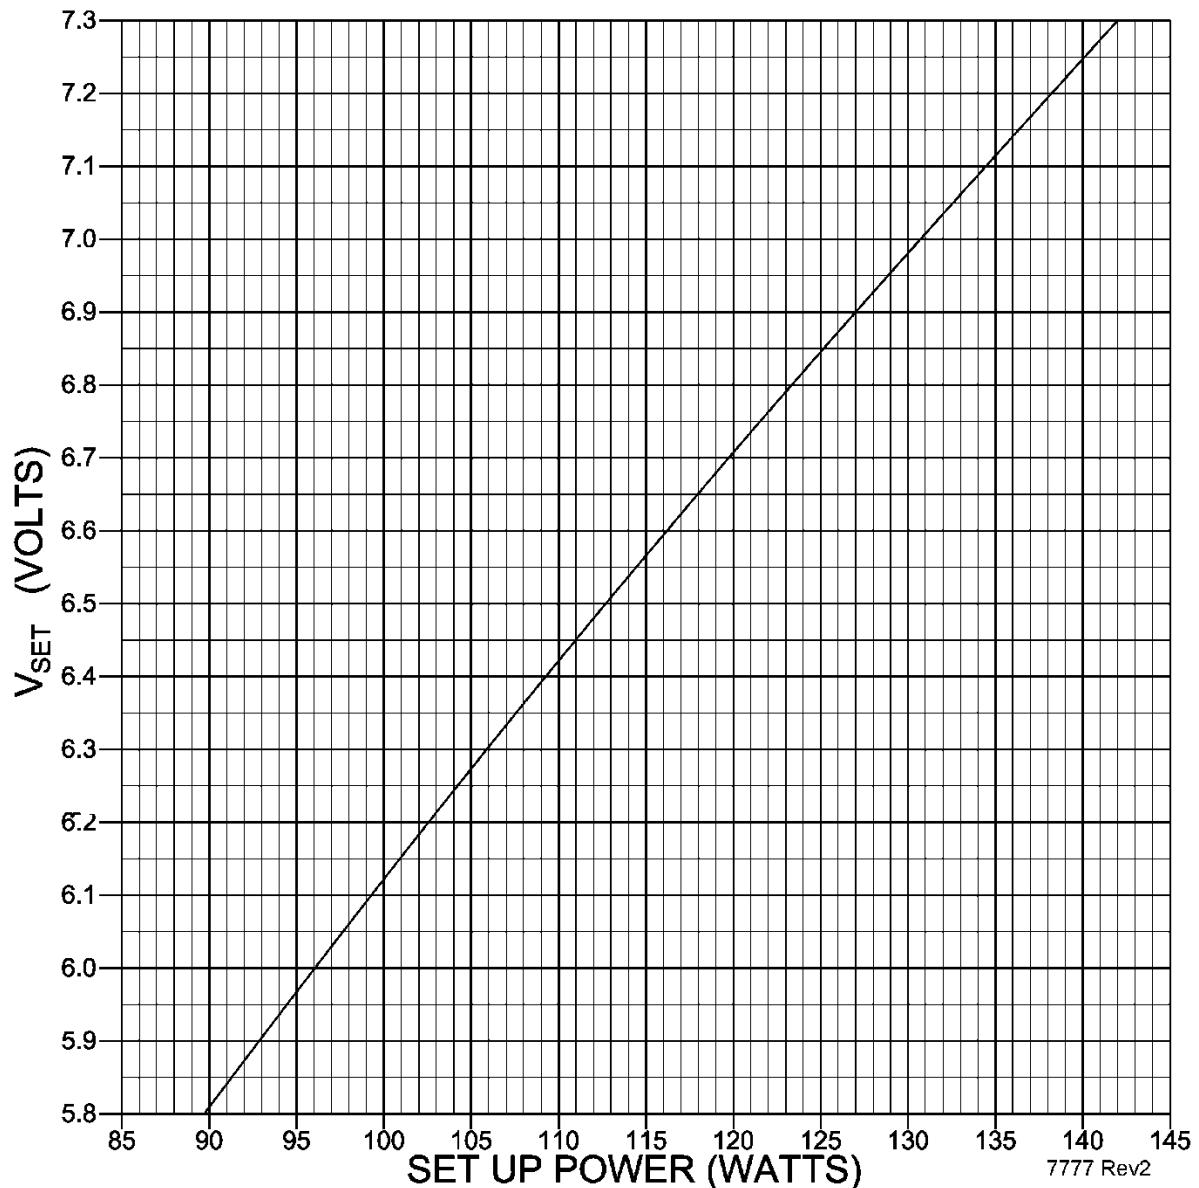

Figure 12 V_{set} Versus Set up Power
This relationship is shown in Figure 12. The graph gives V_{set} as a function of set-up power. In determining power (P) consider the following example:
SET UP POWER from Figure 4  V_{set} from Figure 12
Set up power is found by adjusting the desired power for ambient temperature. V_{set} is determined from set up power as shown in Figure 12.
- 4) Use Figure 12 to determine the related V_{set} and record as Item 6.
- 7) Refer to Figure 12 to determine the related V_{set} and record as Item 6.